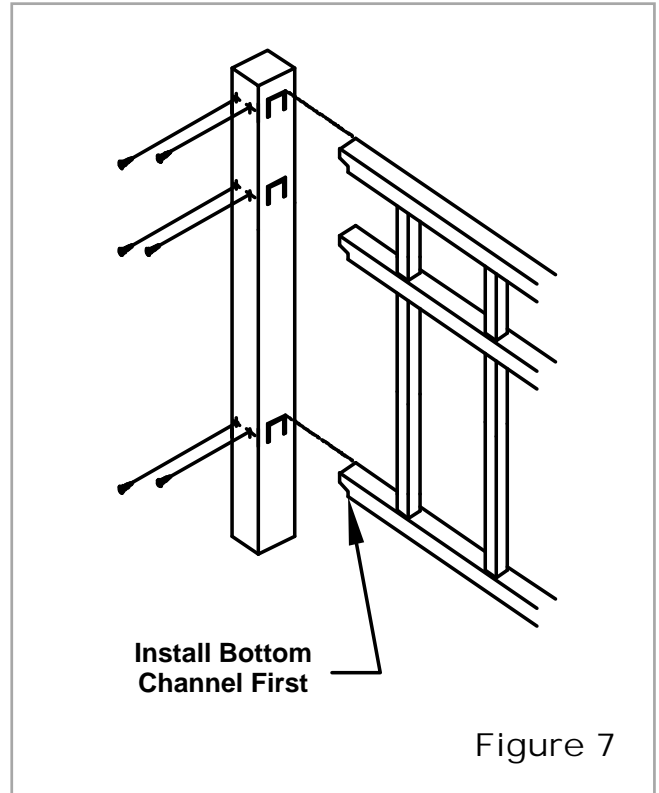

Figure 7
2. Now that the first post is set, insert panel into the post - bottom channel first, then the top two channels. Make sure the screws are facing in, and that the notches are all the way against the post. Screw the panel into the post. (Figure 7) Go to the next hole and put panel into post, insert screws, level post up the string, and set this post. Repeat this procedure until the entire line is installed.